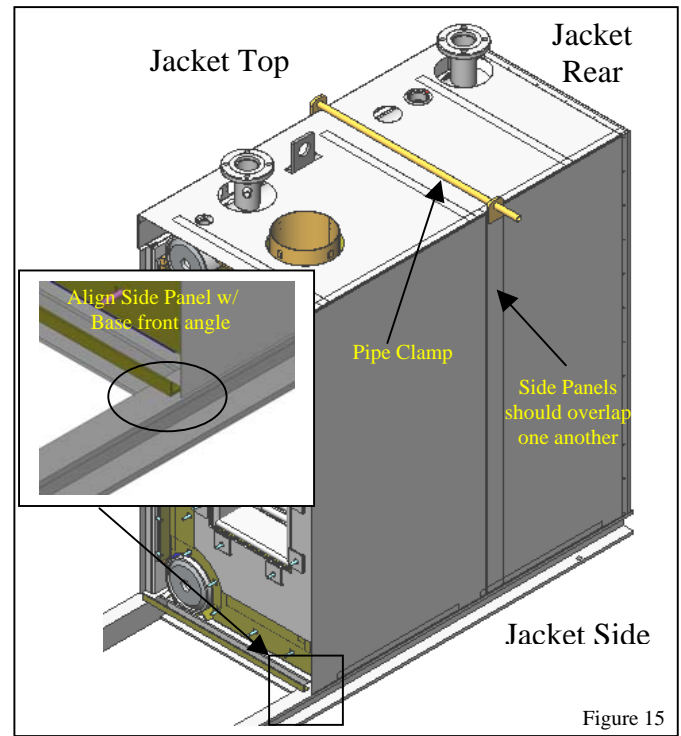

Figure 15
- 4.2 Place Jacket Side panel/panels upon the edge of the boiler base assembly. Position the flange of the Jacket Side to overlay Jacket Top. Align Jacket Side with the base assembly Jacket Front and Rear angles. See Figure 14. If boiler uses multiple Side panels, the panels should overlap one another. Use a pipe clamp to hold the top of the Side panel in position. See figure 15. Once alignment is complete, screw the bottom of the Side panel into the base assembly Jacket Side angle.
- 4.5 Make sure again that jacket Front and Rear is level. Screw in the bottom of jacket Front and Rear about every 8". Next, screw along the rest of the top of jacket Front and Rear. Finally, screw in the top of jacket Side Panel. See figure 15.